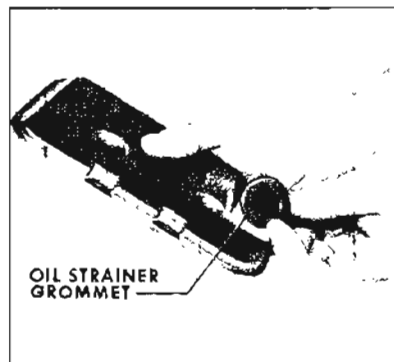

Figure 5-354
14. Install oil strainer to oil strainer pipe grommet. See Figure 5-354.